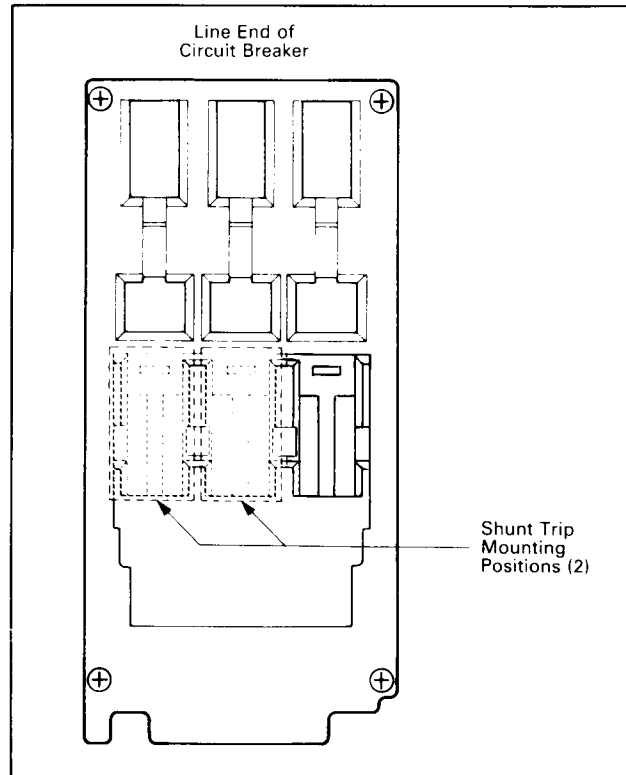

Fig. 2-2. Accessory Location Diagram
- a. Select position for shunt trip on accessory mounting deck (see Fig 2-2).